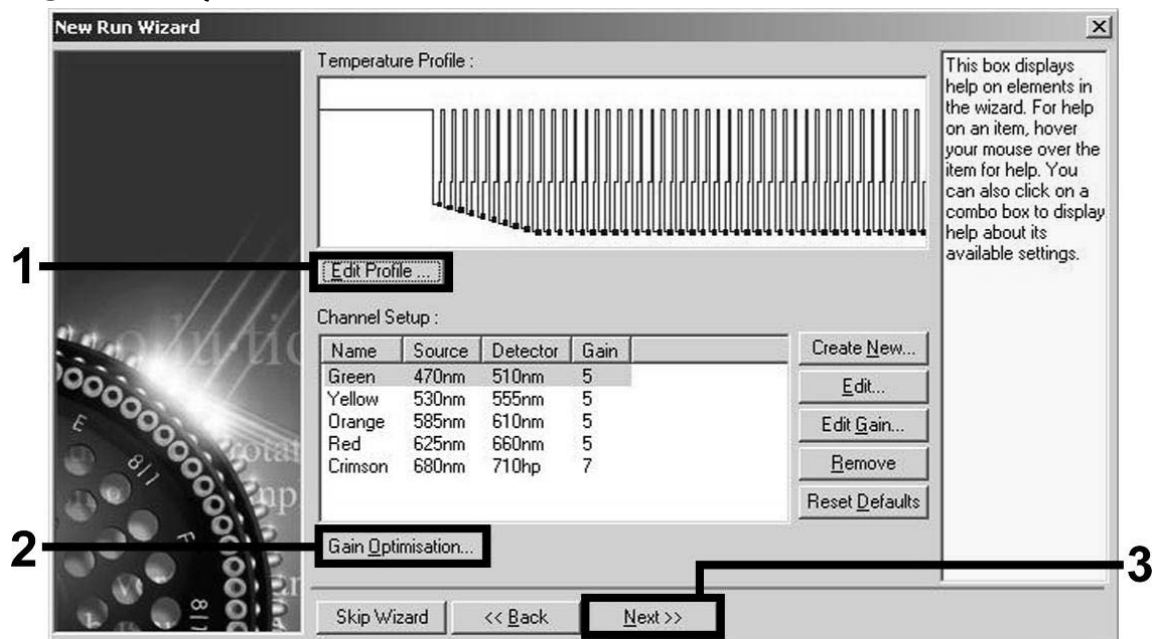

Figure 5. Editing the profile.
8. Click the “Edit Profile” button in the next “New Run Wizard” dialog box (Figure 5), and program the temperature profile as shown in Figures 5–7).
9. The detection range of the fluorescence channels has to be determined according to the fluorescence intensities in the PCR tubes. Click "Gain Optimisation" in the "New Run Wizard" dialog box (see Figure 5) to open the "Auto-Gain Optimisation Setup" dialog box. Set the calibration temperature to 65 to match the annealing temperature of the amplification program (Figure 8).